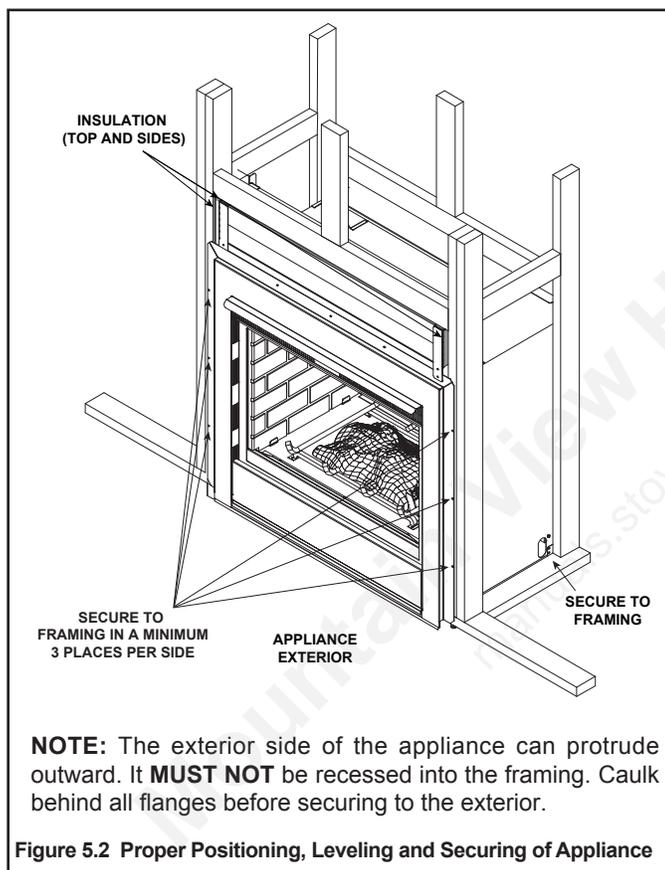

Figure 5.2 Proper Positioning, Leveling and Securing of Appliance
- Place the insulation material on the top (two pieces) and sides (one piece per side) of the appliance, between the appliance and the framing studs. See Figure 5.2.
The diagram shows how to properly position, level, and secure the appliance (see Figure 5.2). Nailing tabs are provided to secure the appliance to the framing members.